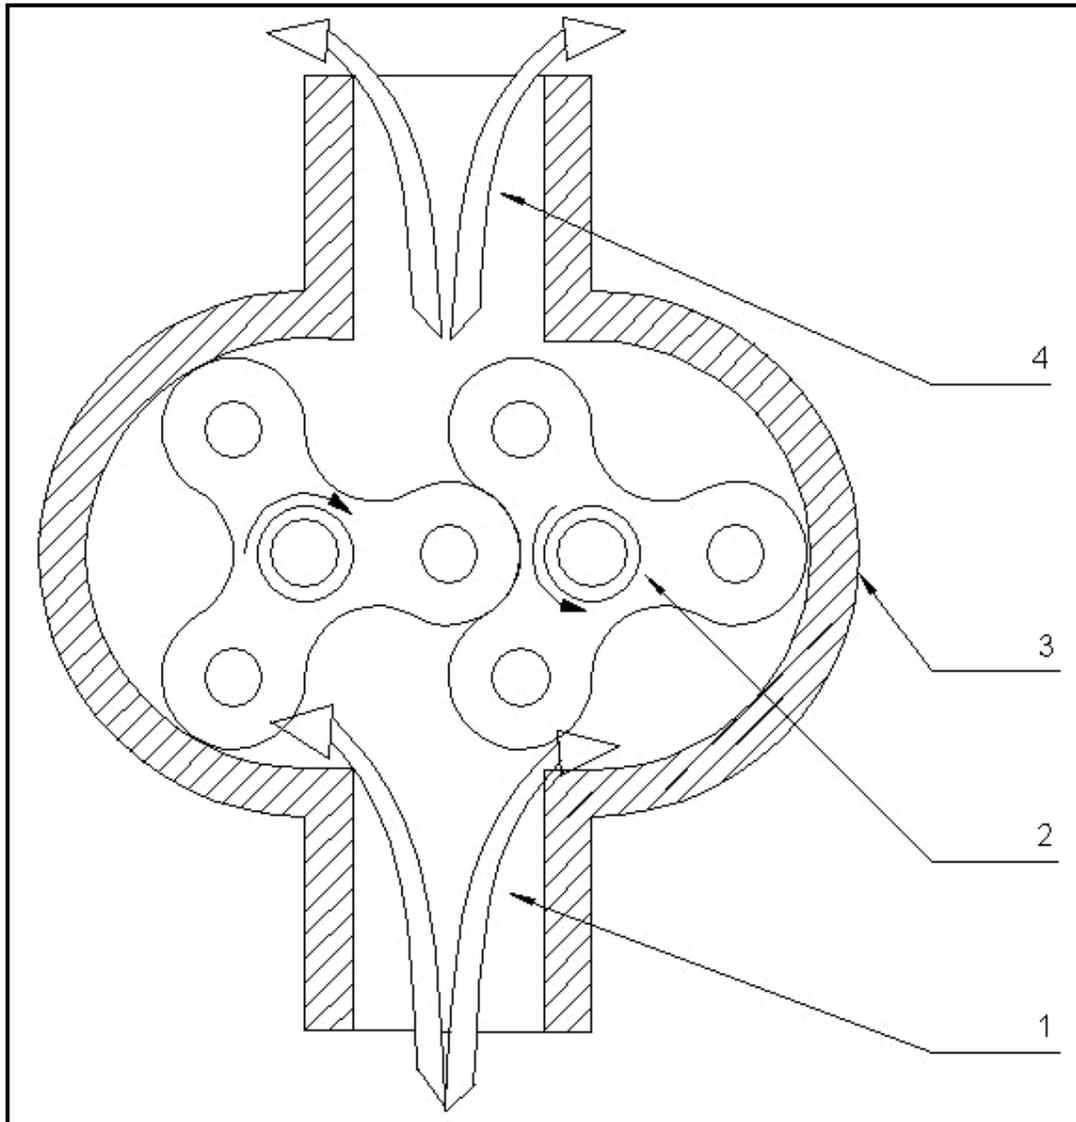

FIGURE 6.1
- Describe the procedure for draining old gearbox oil and filling the gearbox with new oil. (10)
- 6.5 To increase a vehicle's engine performance output, a blower can be fitted to the engine. Refer to FIGURE 6.1 that shows the type of blower that can be used.
- 6.5.1 Identify the type of blower in FIGURE 6.1. (1)